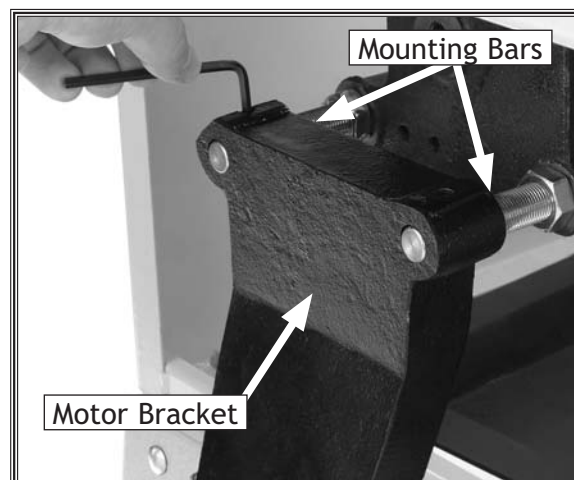

Figure 16. Motor bracket installed on mounting bars.
4. Place the motor assembly onto the mounting bars as shown in Figure 16.